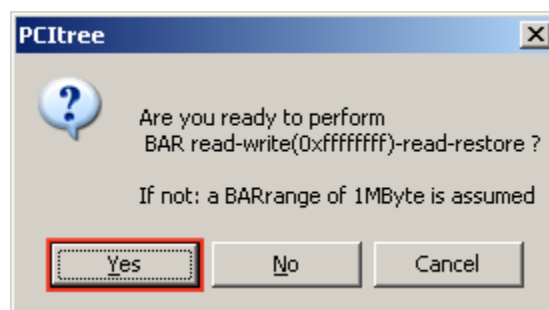

Figure 1-38: Click Yes
20. Click Yes on the dialog box (as shown in Figure 1-38).